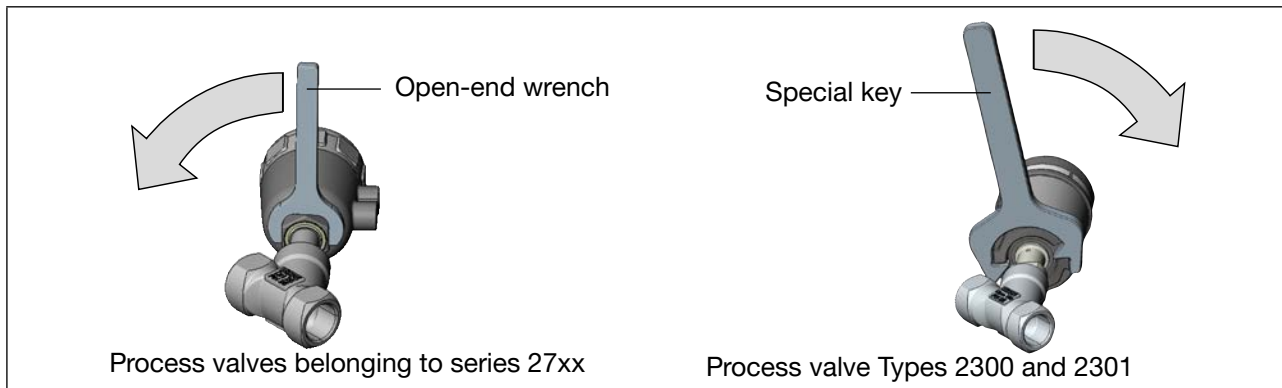

Figure 23: Specified direction of rotation and tool for turning the actuator module
- ▶ The actuator module must only be turned in the specified direction (see Figure 23)!